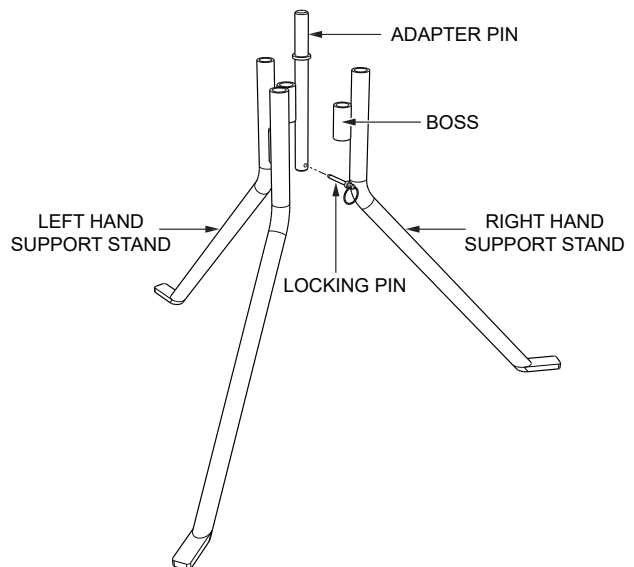

Figure 12. Optional Support Stand
1. Place the two halves of the optional support stand together (Figure 12). The left support stand fits into the center boss on the right support stand.
2. Insert the adapter pin through bosses as shown in Figure 12. Once the adapter pin has been inserted and aligned, insert the locking pin. Place the round part of the locking pin over the bottom section of the adapter pin.